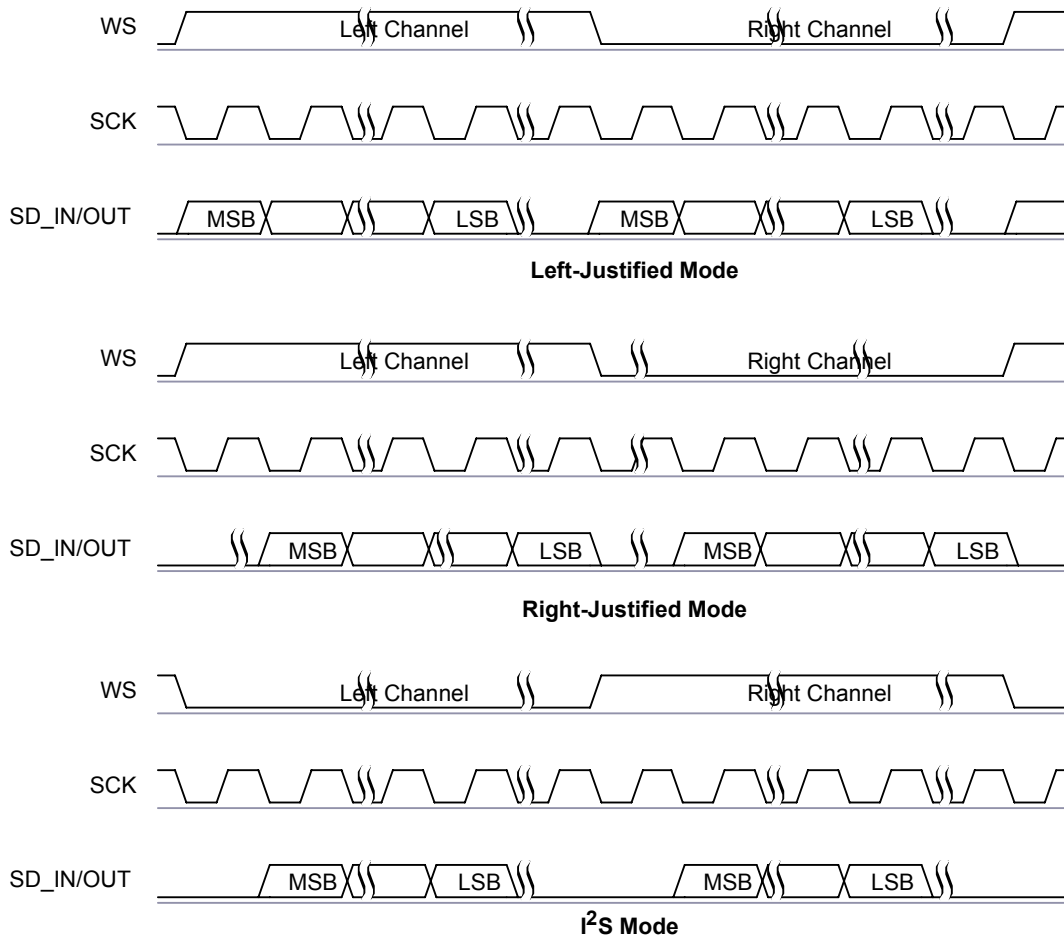

Figure 10.19: Digital Audio Interface Modes
The digital audio interface supports the industry standard formats for I²S, *left-justified* (LJ) or *right-justified* (RJ). The interface shares the same pins as the PCM interface, which means each audio bus is mutually exclusive in its usage. Table 10.11 lists these alternative functions. Figure 10.19 shows the timing diagram.